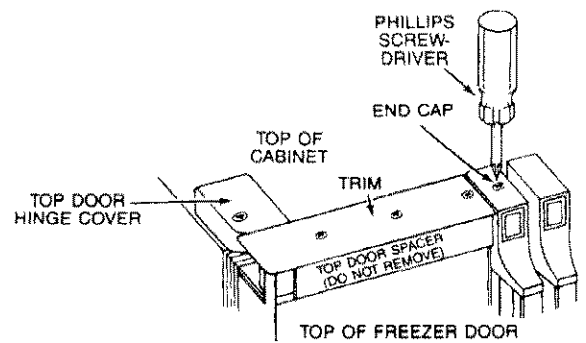

FIGURE 2
1. Remove screws with a phillips screwdriver from top of handle (end cap). (See Figure 2.)
2. Remove the 3 screws from the top of the aluminum extruded trim (See Figure 2).